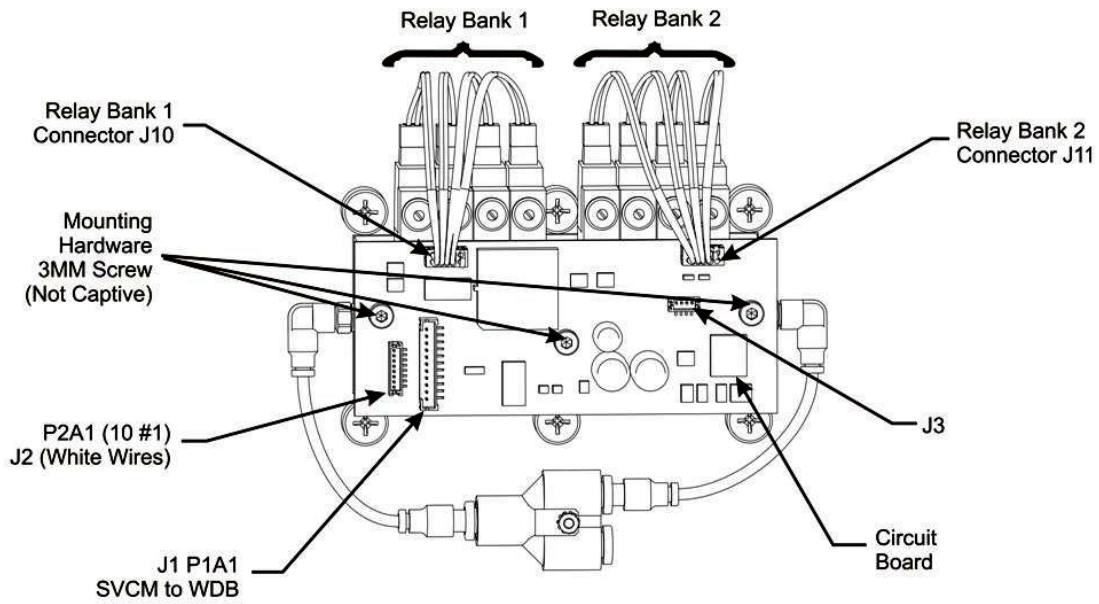

Figure 4-18: Old SVCM Installation and Removal Diagram
2.	Disconnect both solenoid cables J10 and J11 connected to circuit board. Also disconnect J1, J2 and J3. Refer to Figure 4-18.